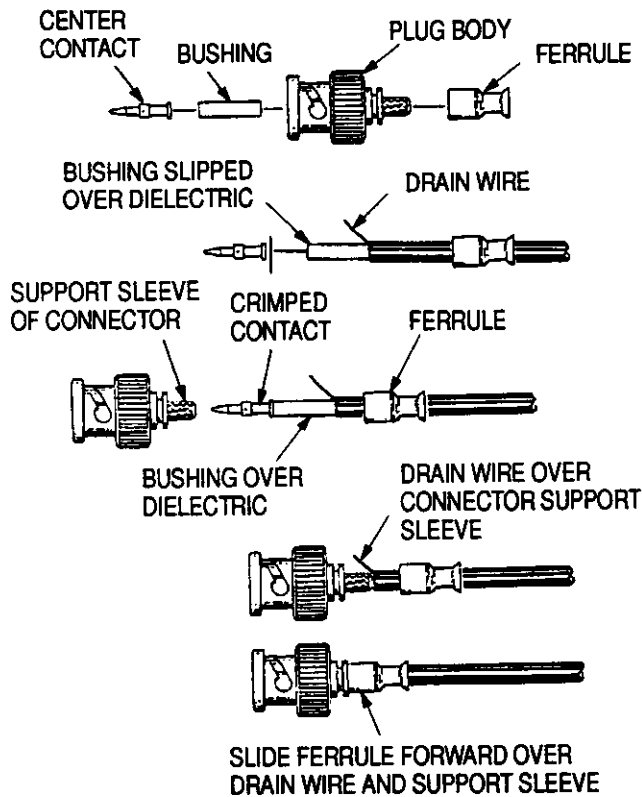

Figure 3
2. Slip the bushing over the dielectric and under the drain wire, as shown in Figure 3.
1. Insert the crimped center contact into the connector body until it bottoms. Make sure that the cable drain wire is positioned over the connector body support sleeve, as shown in Figure 3.